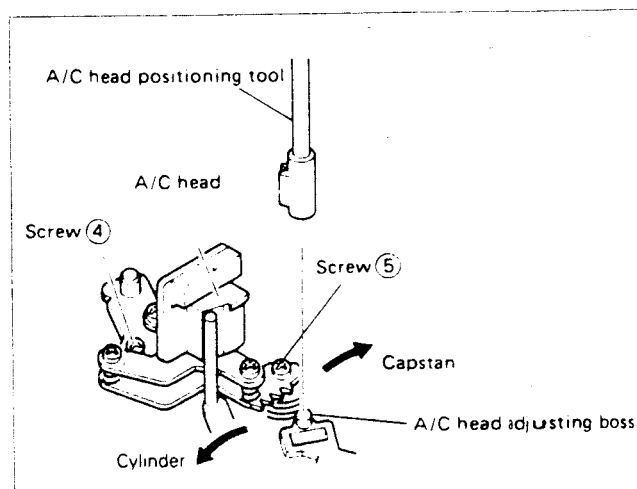

Fig. 2-5-2
- 4) If adjustment is required, slightly loosen screws ④ and ⑤. Set A/C head positioning tool on the A/C head adjusting boss as shown in Fig. 2-5-2.